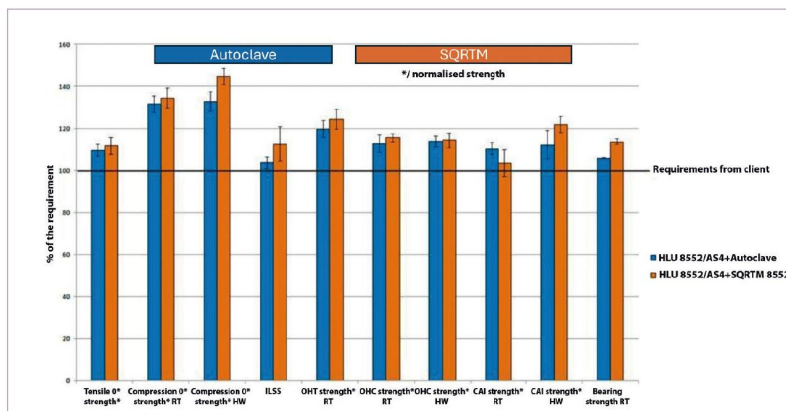

Fig. 5: Comparison of laminates processed by SQRTM and autoclave [4]
- mechanical properties (Figure 5) that usually match or exceed that of autoclave-manufactured test coupons [4] and also exceed RTM mechanical properties;